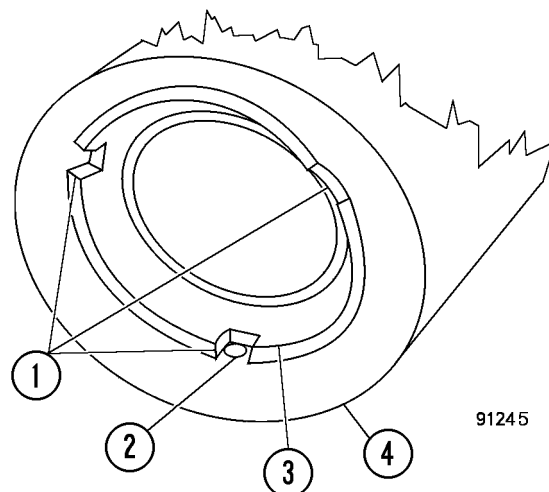

FIGURE 5-8. SPOOL AND SLEEVE ASSEMBLY
**NOTE:** When assembling the spool and sleeve, only one of the two possible matching positions of the spring slots can be used because, in the other end of the sleeve and spool (opposite end of the spring slots), there are three slots in the spool and three holes in the sleeve. These must be opposite each other upon assembly so that the holes are partly visible through the slots in the spool. Refer to Figure 5-8.